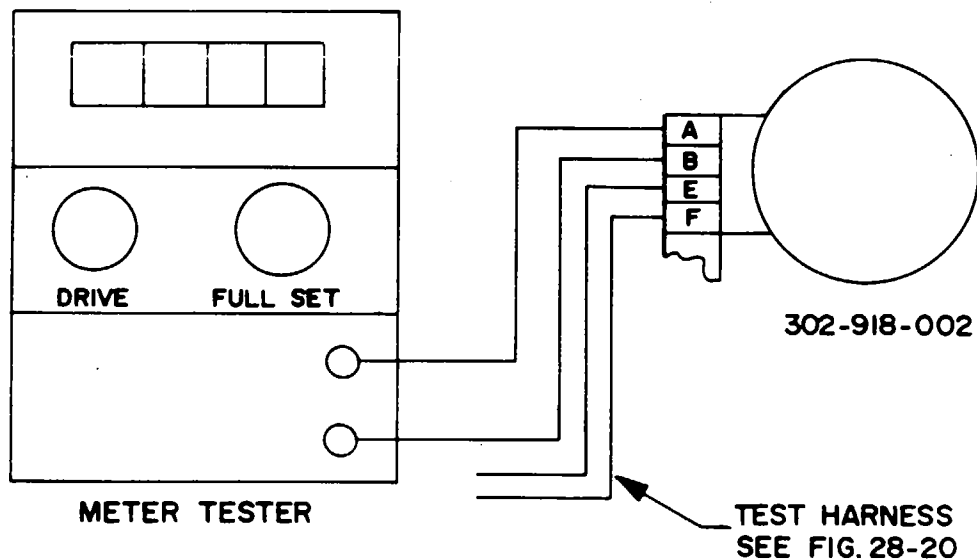

Figure 28-19. Indicator Test Set-Up
1. Connect indicator to test equipment (refer to figure 28-19).